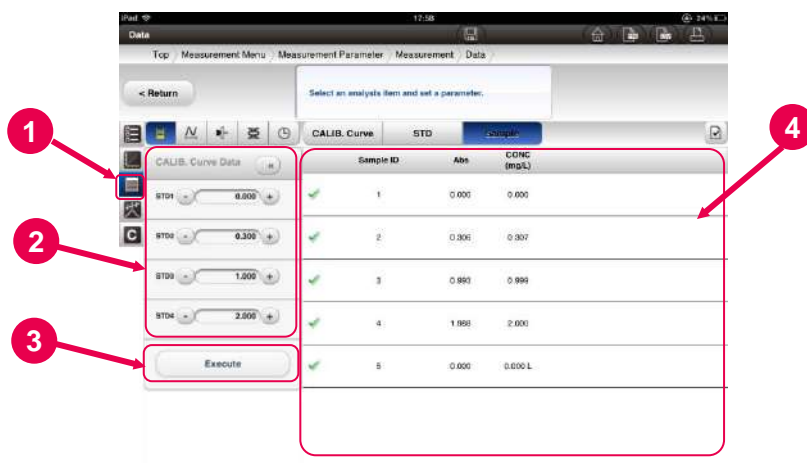

Fig. 5-25 Calibration Curve Setting Parameters Window
- (1) Press the [Calibration Curve Data Icon] button  to change the calibration data.
- (2) The setting parameters for the calibration curve (Fig. 5-25) are displayed. See 4.2.1 “Quantifying the Concentration of Solution” for the setting parameters.
- (3) Set up the items and press the [Execute] button.
- (4) The results of the data processing are displayed.